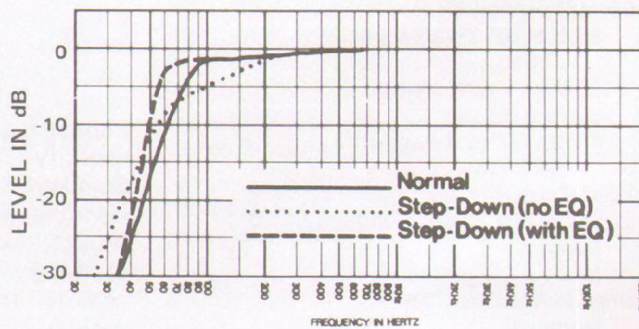
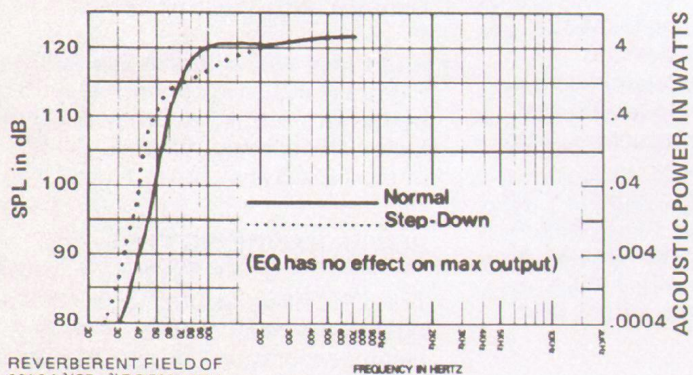

FIGURE 6
FIGURE 7
Figure 6 shows small-signal total acoustic power output vs. frequency for the TL806/EVM-12L. In addition, Figure 7 shows the maximum acoustic power output versus frequency. The maximum output is limited by either (1) the thermal power handling capacity of the speaker, or (2) the speaker's maximum linear cone excursion capabilities, whichever occurs first. Note that some 2 to 3 dB of maximum output in the 80 to 130 Hz range is sacrificed when the step-down mode is used.